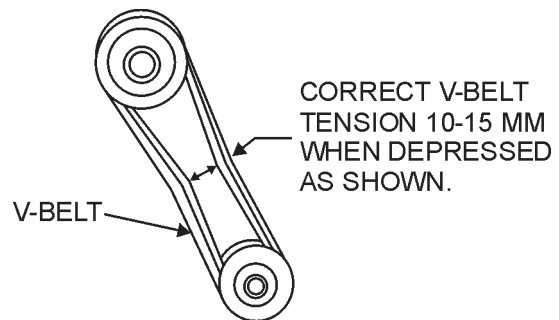

Figure 7. V-Belt Tension
2. The V-belt tension is proper if the V-belt bends 10 to 15 mm (Figure 7) when depressed with finger at midway between the clutch and vibration pulley shafts.